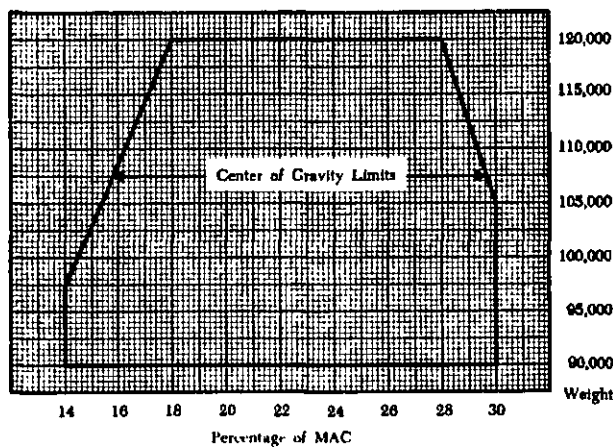

FIGURE 3. Center of Gravity Limit Chart.
20. An airplane has a mean aerodynamic chord of 175 inches and has the center of gravity limits illustrated in Figure 3. What is the center of gravity range when this airplane is loaded to a weight of 112,500 lbs.?